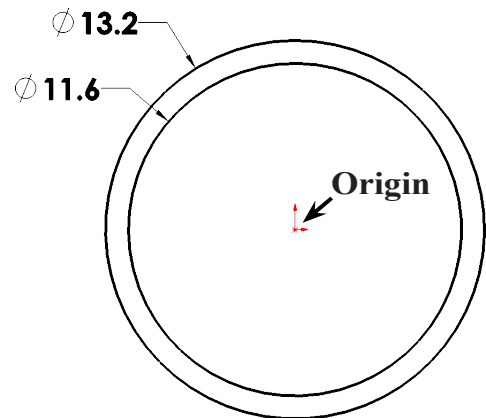

Fig. 2
Step 3. Click **Circle**  (S) on the Sketch toolbar.
Step 4. Sketch **two circles at Origin** , **Fig. 2**.
Step 5. Click **Smart Dimension**  (S) on the Sketch toolbar.
Step 6. Dimension **diameters 13.2 and 11.6**, **Fig. 2**.